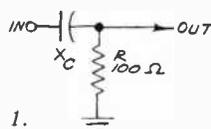

Fig. 1.
**RC Coupling.** When resistor-capacitor (RC) coupling is used between the stages of an amplifier, the output voltage appears across the resistor, as shown in Fig. 1. The reactance of the capacitor ( $X_c$ ), a function of frequency, determines what percentage of the input voltage to the RC network appears across the output.
When the reactance of the capacitor is low in comparison to the resistance, most of the output voltage appears across the resistor. You can prove this with a few simple calculations. For example, what is the input impedance for the RC network shown in Fig. 1 when  $X_c$  is 1 ohm and R is 100 ohms.